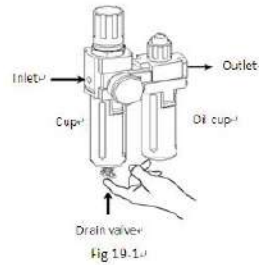

Fig 19.1
- As shown in Figure 19-1, when you find water in the cup, push the drain valve upward with your fingers to evacuate the water; release your fingers after draining the water, the drain valve will automatically close by spring action.